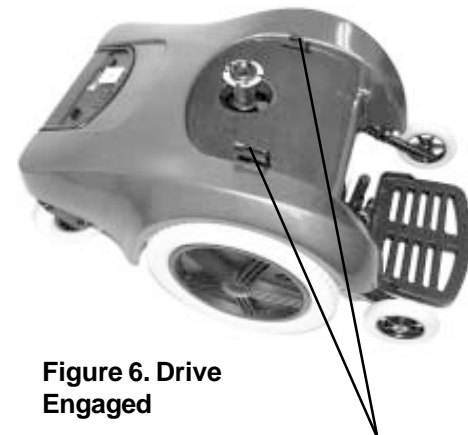

Figure 6. Drive Engaged
2. Turn the freewheel levers outward to engage the drive motors. See figure 6.